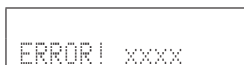

Fig. 3
4. When writing of the firmware is completed, “UPDATE SUCCESS”, “PLEASE...” and “POWER OFF!” are displayed repeatedly. (Fig. 3)